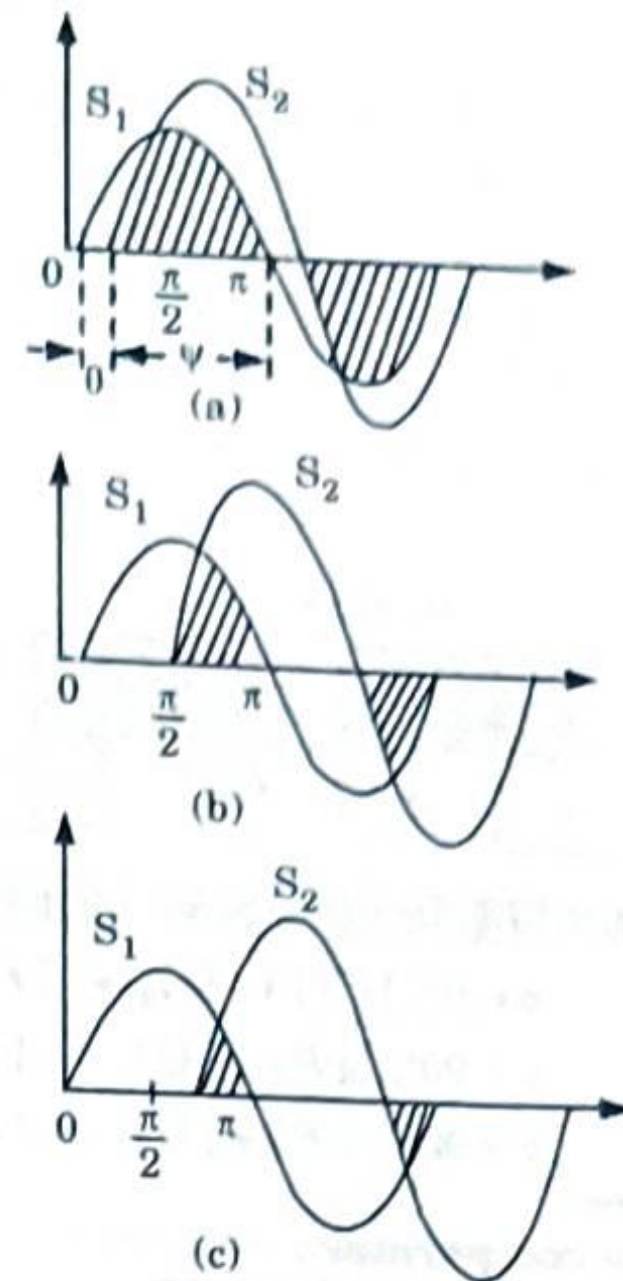

Fig. 2.13.1. Coincidence of signals :
2. Considering two sinusoidal signals S_1 and S_2 , the period of coincidence of S_1 and S_2 will depend on the phase difference between S_1 and S_2 . Fig. 2.13.1 illustrates the coincidence of signals for different phase relationships.